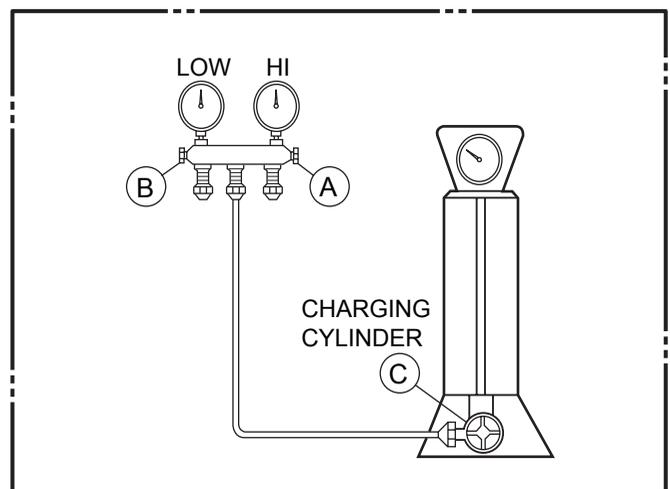

Figure 30B-Charging
- 4) Remove the hose from the vacuum pump and place it on the charging cylinder. See Figure 30B. Open valve C.
- 2) Connect the charging cylinder as shown in Figure 30B.